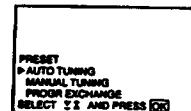

Fig. 5
- 2 Select "PRESET" with $\Delta+$ or $\nabla-$ and press OK. The PRESET menu appears. (See Fig. 5.)